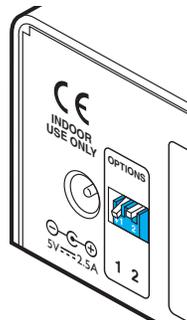

Figure 3-7. Click down option switch 1 to the ON position.
- 3 On the rear panel, click option switch 1 to the ON (down) position. See Figure 3-7.